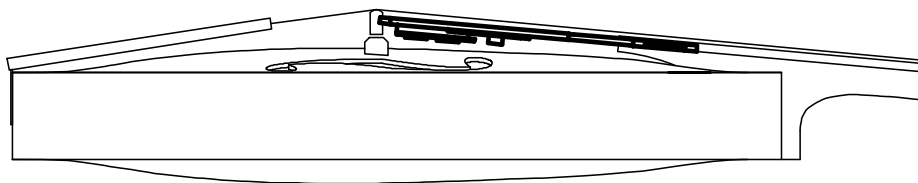

Figure 10 - The pots below the pickguard are not a big problem in most cases
- An additional requirement is that space is needed for the pots so that, if the pickguard follows more or less the lay of the strings, they don't collide with the top. You can see from the dimensions diagram that the total thickness there is about 11.4 mm. Normally there will be plenty of room, much more than needed, on most archtop guitars (see Figure 10).
1. You'll see some pickguards that follow more or less the lay of the strings, as in Figure 10. Other times, they fall a little towards the bridge. Also, sometimes the pickguard surface is in the same plane as the